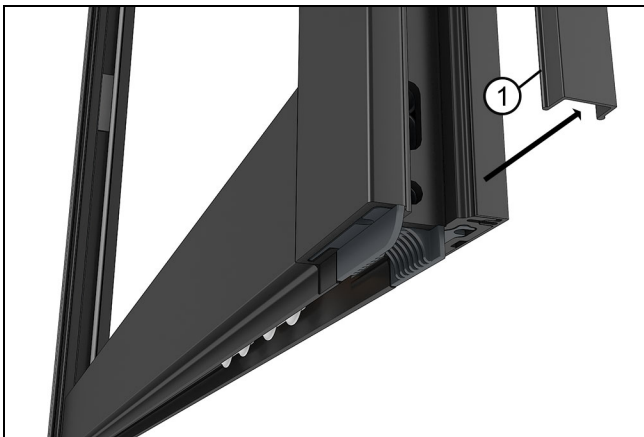

Figure 89
3. Remove the locking stile roller adjustment hole cover. See Figure 89.